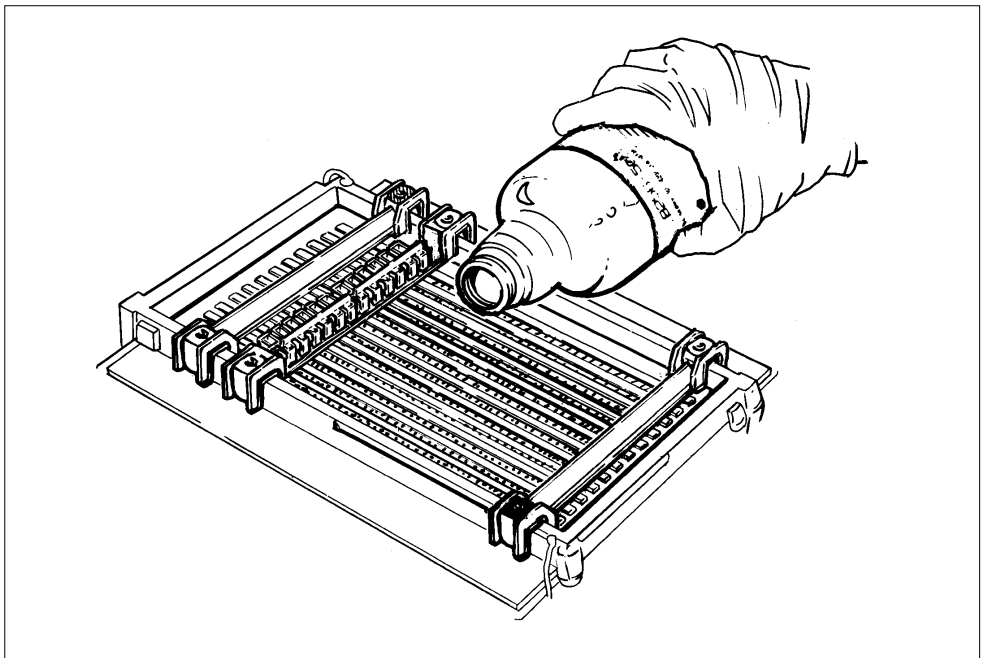

Fig. 18.
- Once the sample cups are properly positioned, pour 70-80 ml DryStrip Cover Fluid into the tray to completely cover the strips. If the oil leaks into the sample cups suck the oil up, adjust the leakage and check for leakage again. Add approximately an additional 150 ml of DryStrip Cover Fluid to completely cover the sample cups. (Fig. 18)